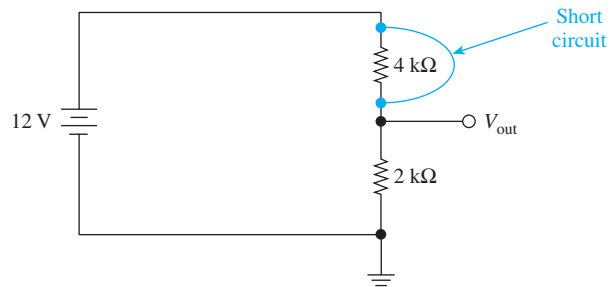

Figure F-6 A short across the top resistor causes the entire 12 volts to reach V_{out} .
Find V_{out} in Figure F-6.
- F-8.** The short circuit in Figure F-6 causes V_{out} to become 12 V because the current through the $2\text{-k}\Omega$ resistor becomes 0 A. True or false?